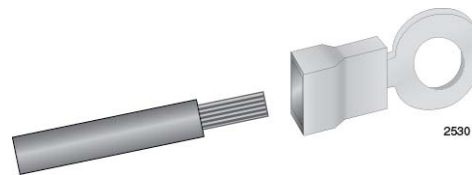

Figure 113. Attaching the Stranded Grounding Wire to the Grounding Terminal
2. Insert the grounding wire into the grounding terminal provided with the power supply and use a crimping tool to secure it to the grounding terminal. See Figure 113,